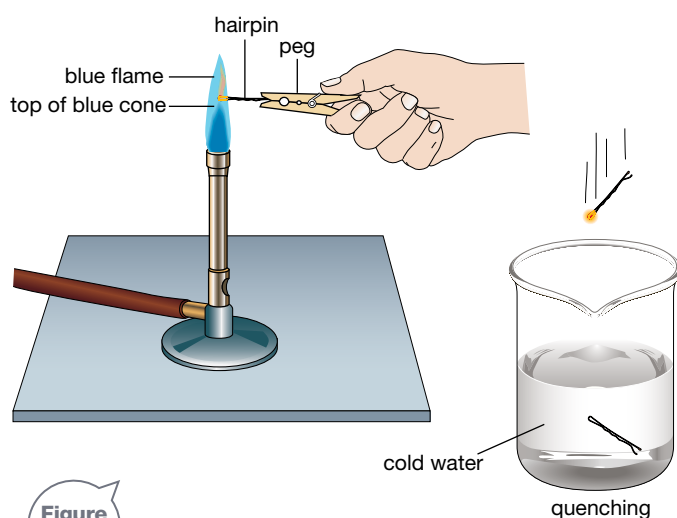

Figure 2.1.7
- 3 Hold another hairpin with the peg and heat the bend of the pin in a blue Bunsen burner flame until it is red hot (see Figure 2.1.7). Allow it to cool on the bench mat. This process is known as **normalising or annealing**.